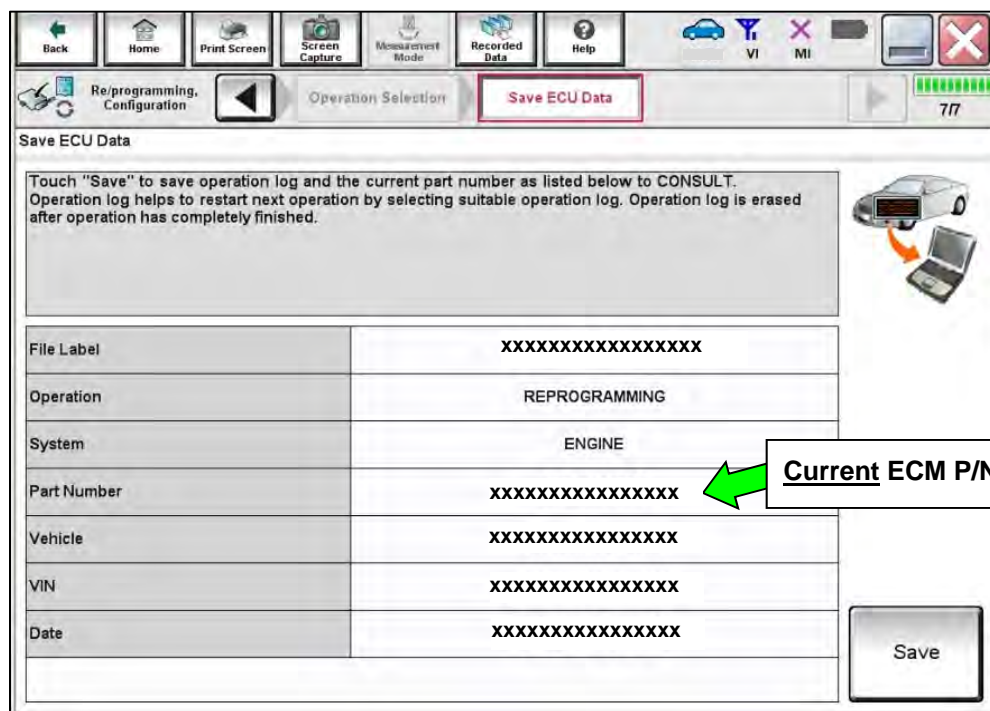

Figure 8
19. When you get to the screen shown in Figure 8, confirm reprogramming applies as follows: